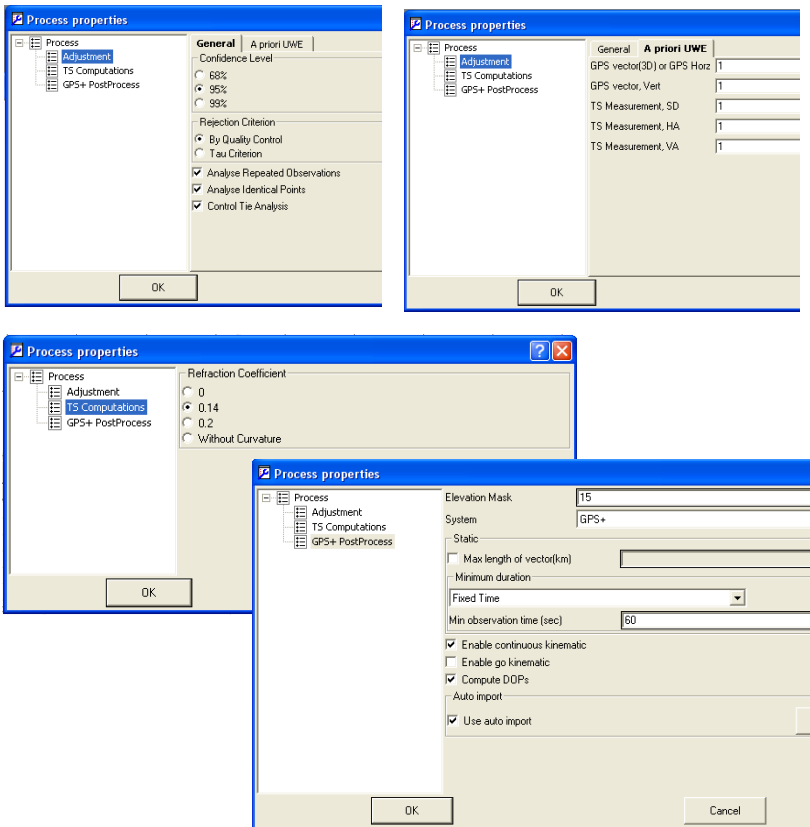

Figure 6-1. Process Properties
1. To set process and adjustment parameters, do one of the following (Figure 6-1 on page 6-3):
2. On the *General* tab of *Adjustment Process* sub-menu option, select the following adjustment parameters (Figure 6-1 on page 6-3):
- Confidence level for the adjustment process: either 68%, 95%, or 99% (Figure 6-1). The default confidence level is 95%.
3. On the *A priori UWE* tab of *Adjustment Process* sub-menu, select a priory unit of weight error for the GPS vector in vertical, horizontal or 3D adjustment, and for slope distance, horizontal angle, vertical angle of TS measurements in adjustment of network (Figure 6-1 on page 6-3). The default confidence level is 1.
4. On the *TS-Computations* tab, select the refraction coefficient: either 0, 0.14, or 0.2 (Figure 6-1 on page 6-3). The default is 0.14.
5. On the *GPS+ PostProcess* tab, select (Figure 6-1 on page 6-3):
- enables/disables calculating the PDOP value for all type of post-processed observations (Figure 6-1 on page 6-3)
By default, the display and processing of GPS Observations for kinematic occupations is turned off. To display and process GPS kinematic data, check mark the “Enable continuous kinematic” box on the *GPS+ PostProcess* tab (Figure 6-1).